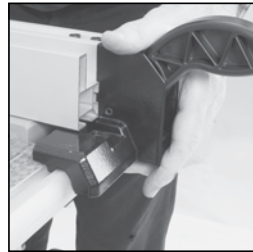

FIG. 6B
- With the handle in its upper position, locate the front of the Rip Fence over the front Rip Fence Rail. **(Fig. 6B)** Push the handle down to lock the Rip Fence in place.